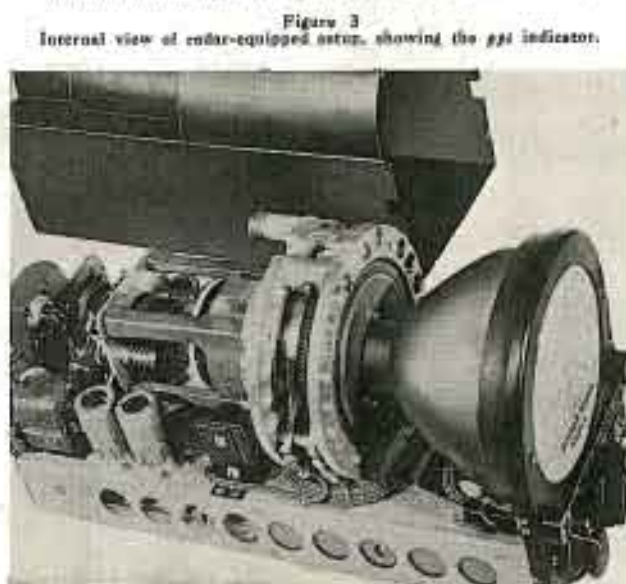

Figure 3
- (1) The  $r_f$  coupling between rectifier and the transmitter must be increased until the rectified  $dc$  voltage ( $M_v$ , Figure 3) is 4 to 5 volts.
- (2) With the noise meter connected to the rectifier, the noise meter should then be adjusted for a convenient reference reading of the ripple on the rectified  $dc$ .
- (3) The noise meter should then be connected to the output of the attenuator panel and the output of the oscillator and the attenuator settings adjusted for the same reading on the noise meter as obtained in step 2. The level indicated by the attenuator panel is equal to the ripple level expressed in dbm.
- (4) The AM noise level referred to level representing 100% modulation\* can be calculated by the following formula: